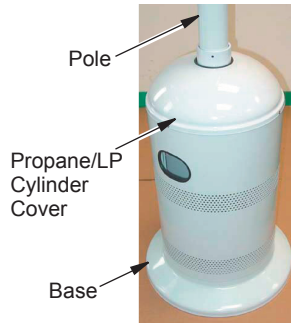

Figure 4 - Propane/LP Cylinder Cover
- Put propane/LP cylinder cover on base assembly (see Figure 4). Slide propane/LP cylinder cover over pole and pole support. Be sure that propane/LP cylinder cover rests level on the base.